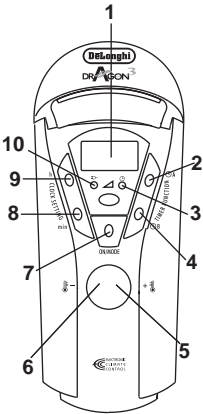

fig. 5
- Set the time you want the appliance to go off using the "hour button" (9) and "min button" (8), then confirm the off time by pressing the "Timer Function A" (2) button again (fig.5).
- At this point, the word "AUTO" appears at the top of the display and the "TIMER ON" (3) indicator light comes on to indicate that the appliance is ready to operate at the programmed time maintaining the preset comfort temperature.
- To set the program B press "Timer function B" (4) button and follow the same procedure as described for the program A.
- Use the "⬆+" (6) or "⬆-" (5) buttons to set the desired comfort temperature, as described above.